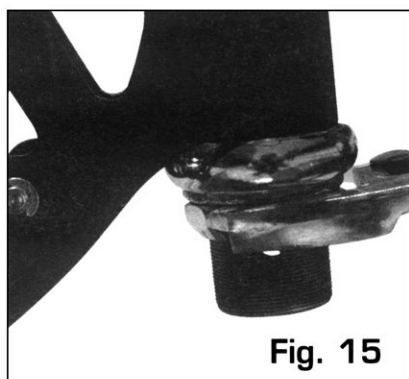

Fig. 15
3. Using 2 large adjustable wrenches, loosen both nuts (Fig. 15).